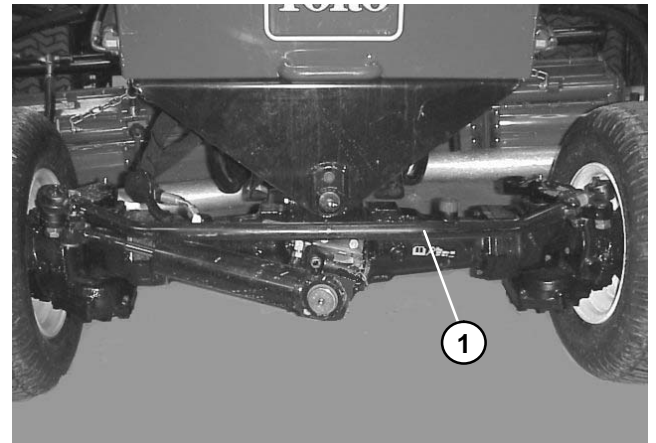

Figure 9
2. Remove the cotter pin and slotted hex nut from either tie rod ball joint. Use a ball joint fork and remove the tie rod ball joint from the axle case support (Fig. 9).
4. Rotate the detached ball joint inward or outward one (1) complete revolution. Tighten the clamp at the loose end of the tie rod.
5. Rotate the entire tie rod assembly the same direction (inward or outward) one (1) complete revolution. Tighten the clamp at the connected end of the tie rod.